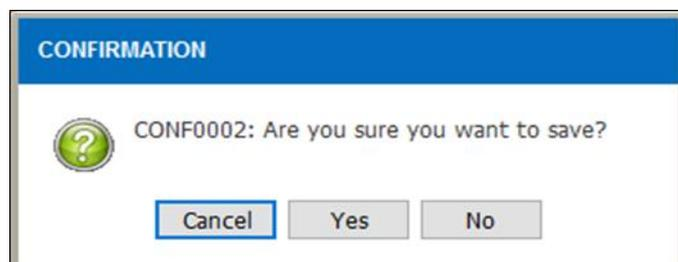

Figure 3.5-8 Save Record Alert Message
- After saving record, alert message will be displayed as per Figure 3.5-8 & Figure 3.5-9